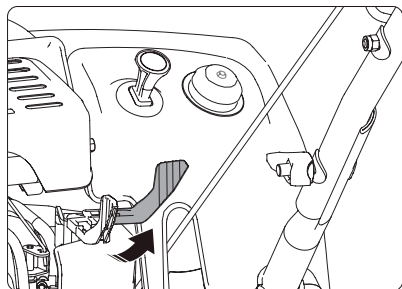

Fig 8
4. Slide the Choke lever to the CLOSED position. (Fig 8)